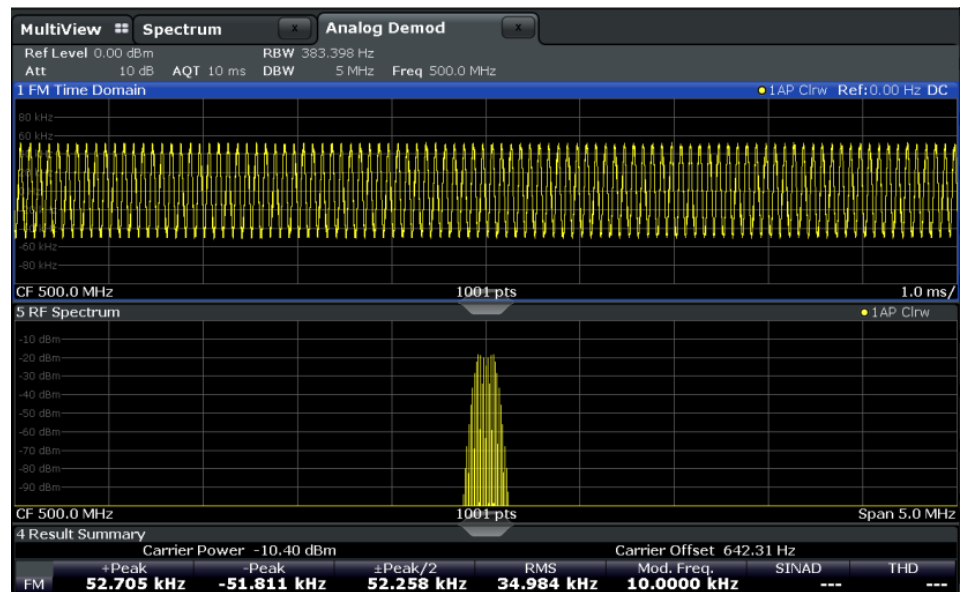

Fig. 9-3: RF spectrum of FM signal with default demodulation bandwidth = 5 MHz
8. As you can see in figure 9-3, the default demodulation bandwidth of 5 MHz is much too large - the actual signal takes up only a small part of the displayed range. That means that any noise or additional signals apart from the FM signal of interest may be included in the measured results. Select the "Demod BW" softkey and reduce the value to 200 kHz.